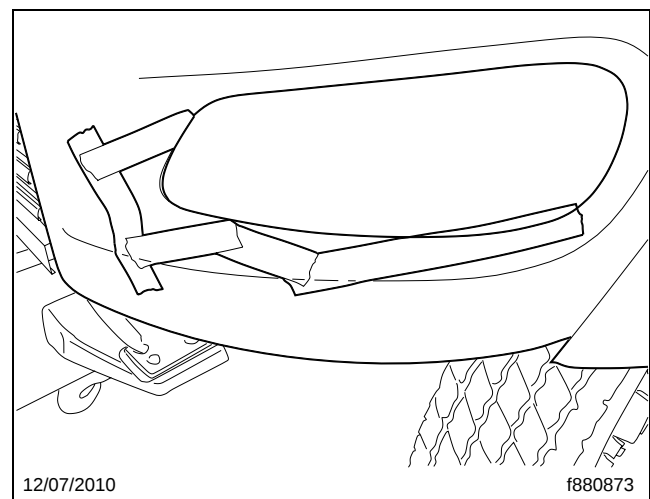

Fig. 4, Masking Tape Secured Around the Headlight Opening
6. Around the right and left headlights, apply masking tape around the headlight opening to provide a surface to trace a guide for the saw. See **Fig. 4**.